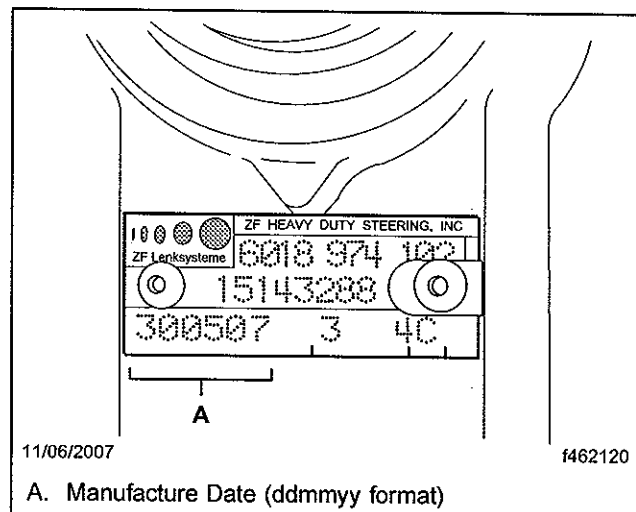

Fig. 1, Data Plate Identification
3. Check the date code on the data plate of the steering gear. See **Fig. 1**.